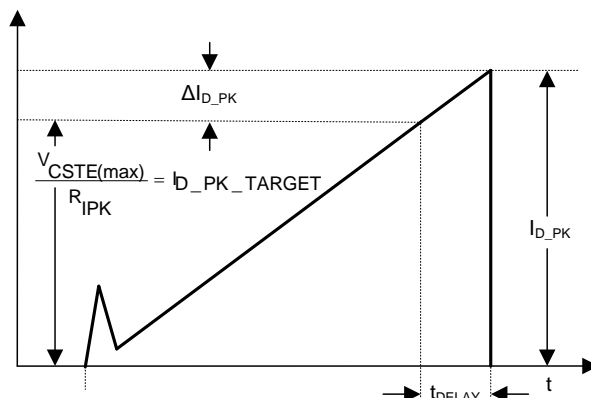

Figure 26. Propagation Delay Effect on the Primary Current Peak
During normal operation the on-time is determined by sensing the power FET current and switching off the power FET as this current reaches a threshold fixed by the feedback loop according to the load condition. The power FET is not immediately turned off and its current, that is also the primary winding current, continues to rise for some time during the propagation delay (t_{DELAY} in Figure 26). Keeping the reference for the PWM comparator constant, the value of the primary winding peak current depends on the slope of the primary winding current and t_{DELAY} . The slope of the primary current is proportional to the flyback stage input voltage (V_{BULK})
The current loop estimates the output current assuming the primary winding peak current is equal to the I_{PK_TARGET} and compares this estimated current with a reference to obtain the current regulation. Considering, I_{D_PEAK} is different from $I_{D_PEAK_TARGET}$ (see Figure 26) we need to compensate the effect of the propagation delay. The UCC28910 and the UCC28911 incorporate fully-integrated propagation-delay compensation that modifies the switching frequency keeping the output current constant during (CC) Constant Current Mode operation. This function is integrated in the controller and requires no external components. This feature keeps the output current constant despite input voltage variations and primary inductance value spread.